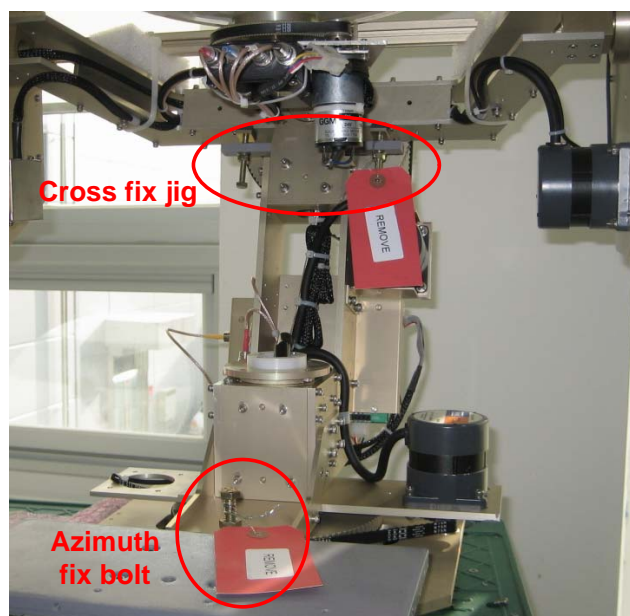

Figure 3-8 Cross & Azimuth Fix Jig 1
6. Remove the jigs and wire ties holding the Antenna. Please refer to Figures 3-8 and 3-9 below.